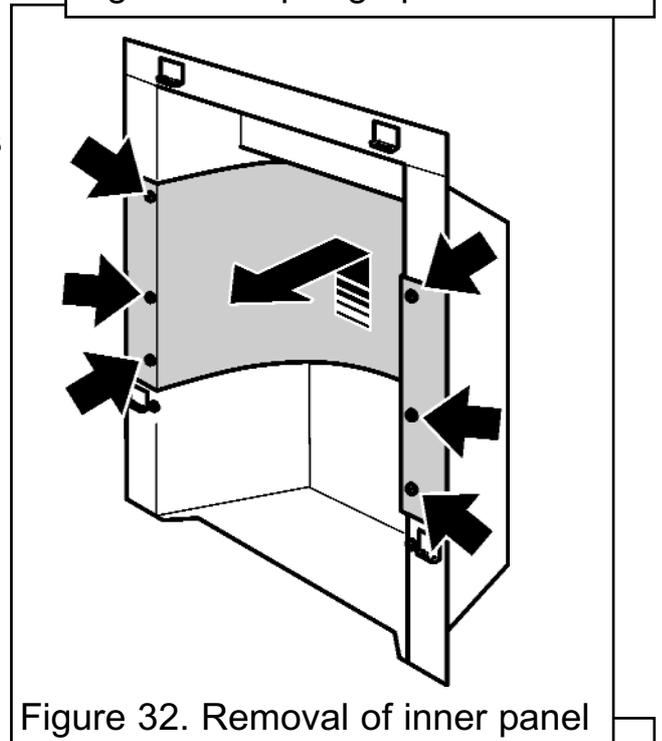

Figure 32. Removal of inner panel
4. Remove the six screws from the side of the inner panel (See figure 32).